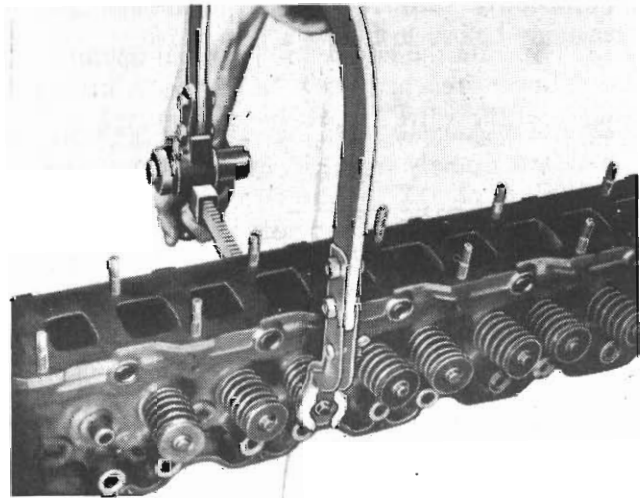

Fig. 11 - Compressing the valve spring
- (1) With cylinder head removed, compress valve spring (using a suitable valve spring compressor), Fig. 11.
- (2) Remove the valve retaining locks, valve spring retainers, valve stem cup seals and valve springs.
- (3) Remove any burrs from valve stem lock grooves to prevent damage to the valve guide when valves are removed. Identify valves to ensure installation in original location.